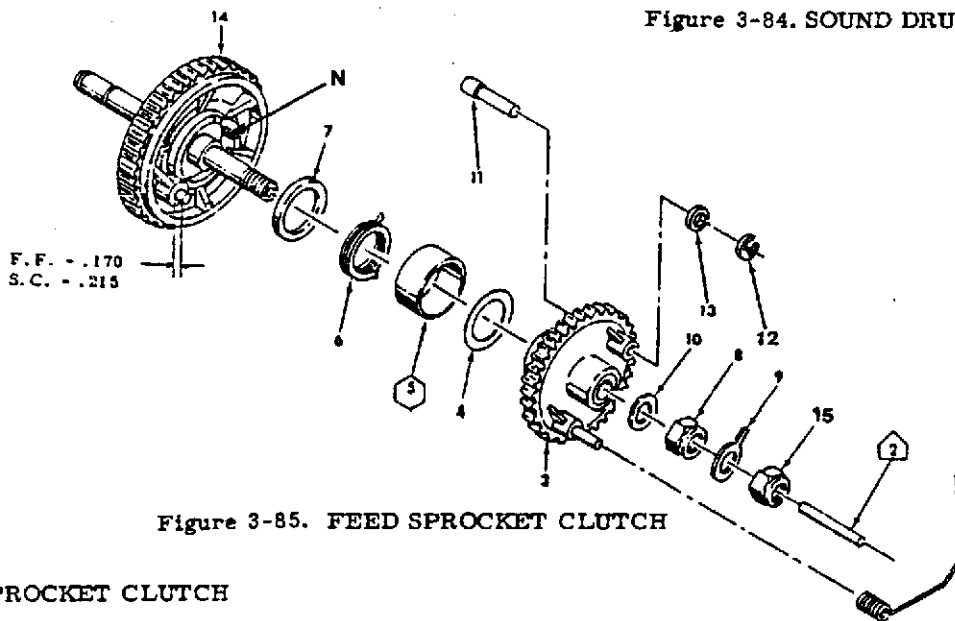
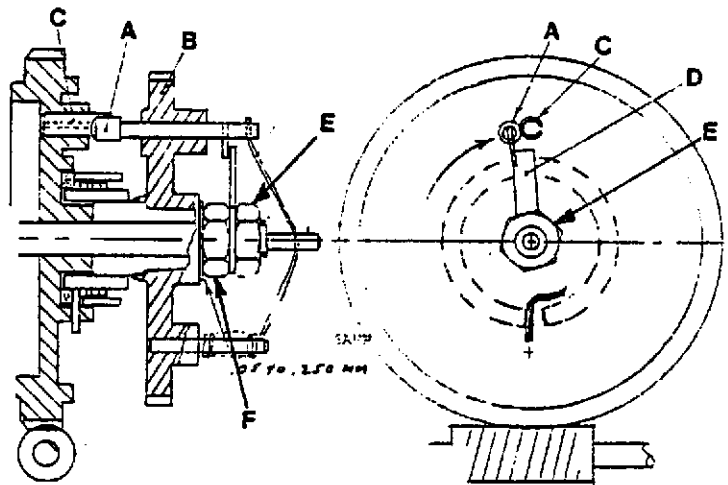

Figure 3-85. FEED SPROCKET CLUTCH
Figure 3-86. FEED SPROCKET CLUTCH ADJUSTMENT
- a. Lubricate the Spring (6) with 009 Lubricant (39479-P7) (Figure 3-85).
- b. Assemble the Lubricating Pad (7) and the Clutch Spring (6) making sure the tail of the Spring (6) is trapped in the Notch (N) of Gear (14).
- c. Assemble Pin (11) to the Gear and Hub Assembly (3) and assemble the remaining parts on the shaft of Gear (14) in the order shown.
- d. Adjust the Nut (8) to obtain .002" to .010" end play on the Gear and Hub Assembly (3).
- f. Assemble Stop (9) and Nut (15) and tighten the Nut (15) just enough to hold the Stop in place.
- g. Depress Pin (A) and turn Clutch Gear (B) clockwise until Pin (A) touches Pin (C). HOLD GEAR (B) — DO NOT ALLOW IT TO SPRING BACK. (Figure 3-86)
- h. Position the Stop (D) so that the corner or edge is just over the small cross pin of Pin (A) as shown.
- j. Hold Nut (F) to prevent it from turning and tighten Nut (E) being careful not to allow Stop (D) to turn during this tightening process.
- k. Recheck the end play of the Gear and Hub Assembly (B) for .002" to .010". Repeat Steps 6 through 9 until the Stop (D) is positioned properly and the end play is correct.
- m. Lubricate the outside diameter of Pin (2) with Teresso Instrument Oil (39479-P8) and insert the pin in the hole in the end of the shaft of Gear (14). (Figure 3-85)
- n. Insert the Spring (1) through the hole in the end of Pin (2) and then into the hole in the end of Pin (11).
- o. Push the Spring (1) onto the Roll Pin protruding from the Gear and Hub Assembly (3). (On Fast Forward models, be sure the cross pin in Pin (11) is pointing toward the shaft of Gear (14).